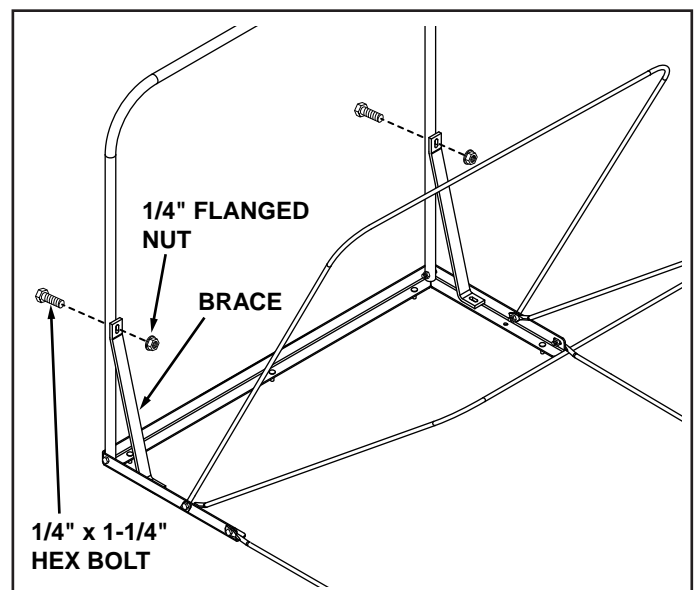

FIGURE 22
- Attach the braces to the front support tube using two 1/4" x 1-1/4" hex bolts and 1/4" flanged nuts. **TIGHTEN. Do not over tighten** and collapse support tube. See figure 22.